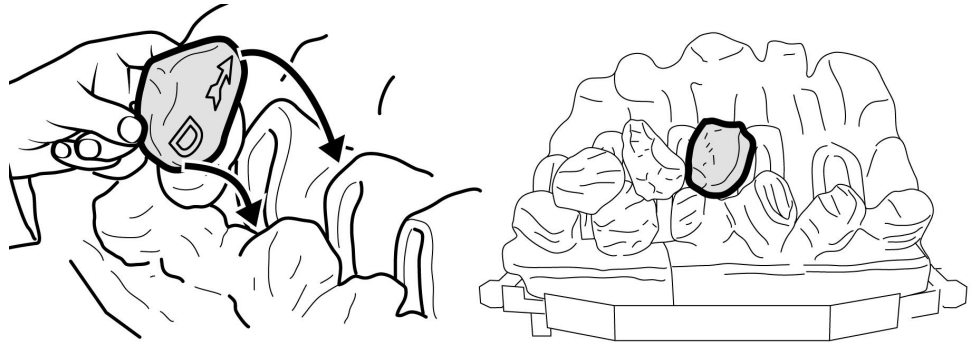

Figure 8. Second row "Coal D"
7. Hold coal 'D' upright with the arrow pointing to the top. Locate coal 'D' as shown in figure 8.